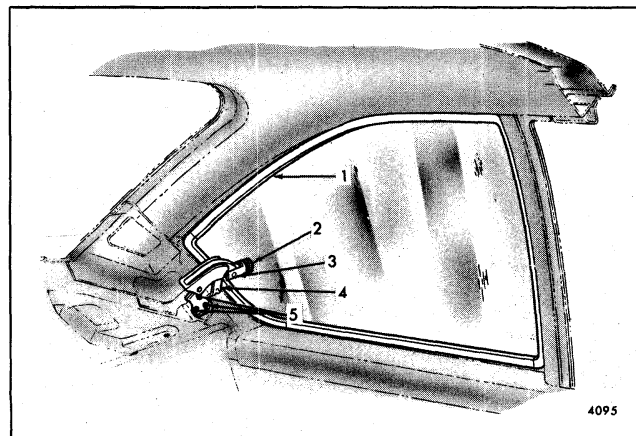

Fig. 6-48-Optional Swing-Out Quarter Window - "H-11 and 77" Styles Shown ("X-17,27" Styles Similar)
2. Remove three screws which secure latch assembly to the body (Fig. 6-48). On "X" styles spacers may be installed and should be removed.
2. Using a flat end punch, remove the latch to support attaching roll pin (Fig. 6-48).